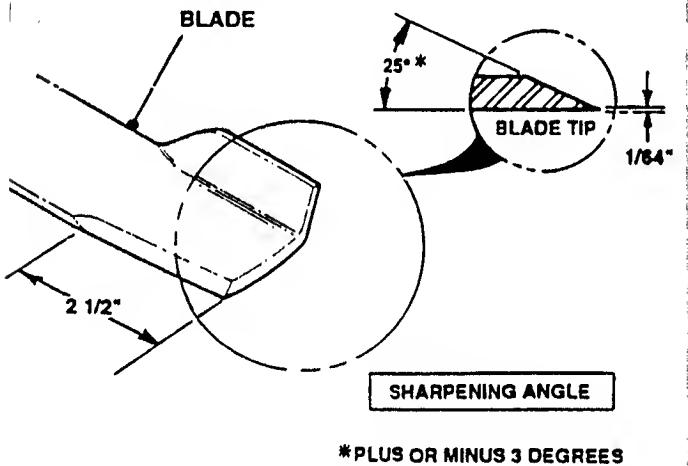

FIGURE 37
5. Should blades be in acceptable condition, sharpen at 25 degrees. See Figure 37.